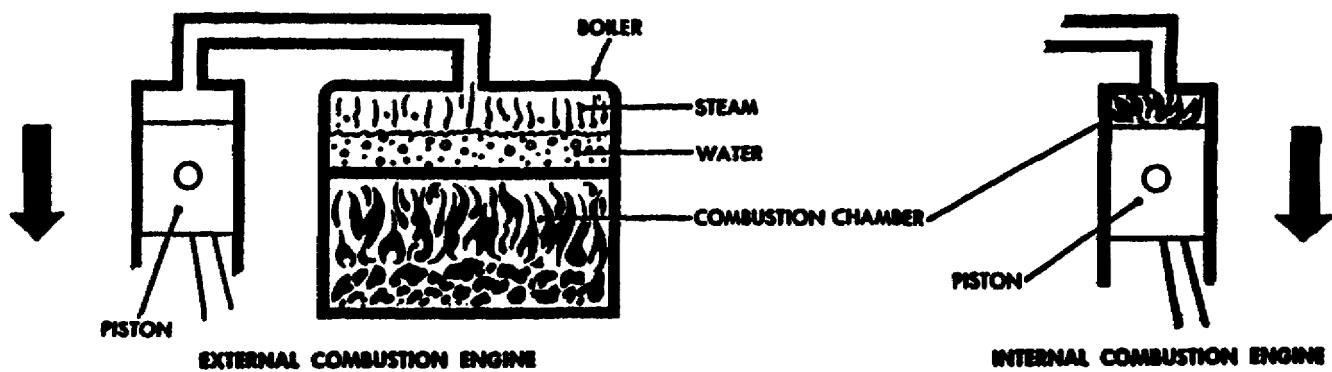

Figure 1-1. Comparison of Internal and External Combustion Engines.
a. Internal and external combustion engines. In the internal combustion engine, the combustion of fuel takes place inside the engine cylinder. This is in contrast to external combustion engine, such as a steam engine, where the combustion takes place outside. Figure 1-1 shows, in simplified form, an external combustion engine. The external combustion engine requires a boiler in which fuel is burned. This combustion causes water to boil to produce steam. The steam passes into the engine cylinder under pressure and forces the piston to move downward. With the internal combustion engine, the combustion takes place inside the cylinder and is directly responsible for forcing the piston to move downward. In both type engines, valves are arranged to permit better intake and exhaust. The most common used engine is the internal combustion engine.